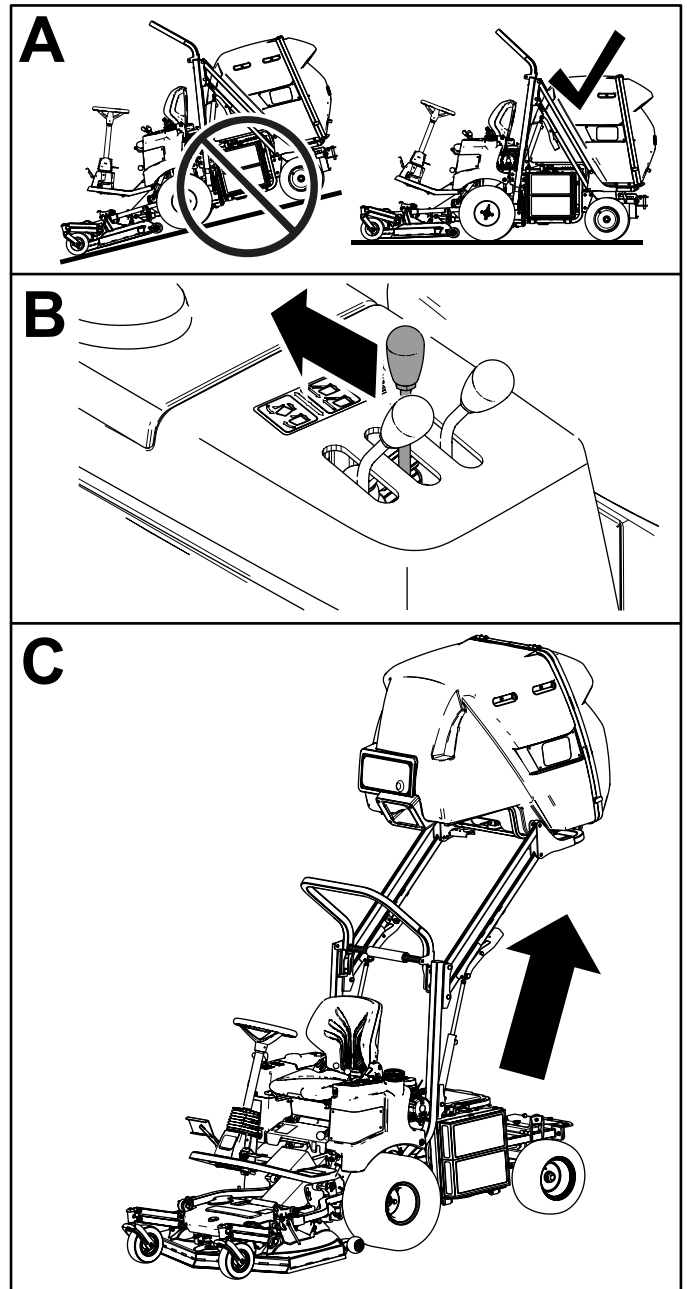

Figure 23
2. Move the hopper lift lever rearward to raise the hopper (Figure 23).